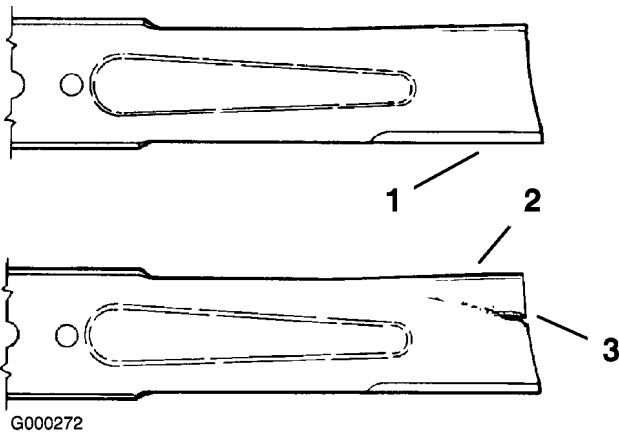

Figure 67
1. Inspect the cutting edges (Figure 67).
2. Inspect the blades, especially the curved area (Figure 67).
If you notice any damage, wear, or a slot forming in this area (Figure 67), immediately install a new blade.